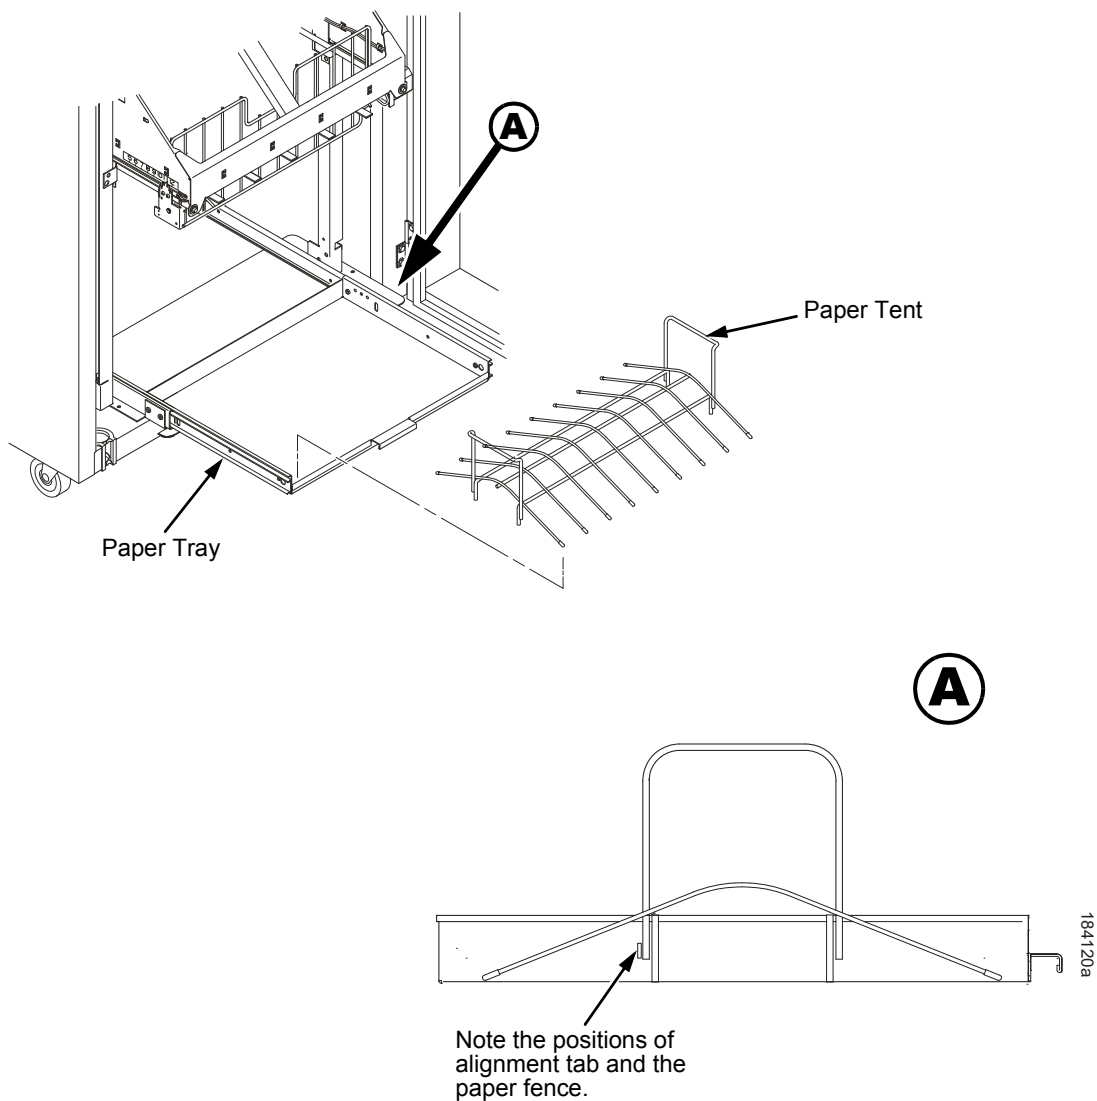

Figure 51. The Paper Tent
4. If the paper you will use is not wider than 15.5 inches (39.5 cm) pull out the paper tray and install the wireform paper tent. (Figure 51.) If the paper is wider than 15.5 inches (39.5 cm) leave the paper tent out of the printer.